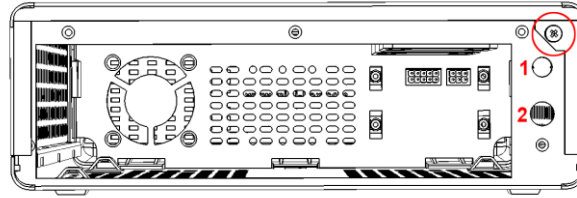

Figure 17 -- Removing the top lid
1. To remove the top lid, remove the screw (encircled in red) from the back, in the right corner, see Figure 17. Push back the top lid ½ inches and after this, gently pull it up.